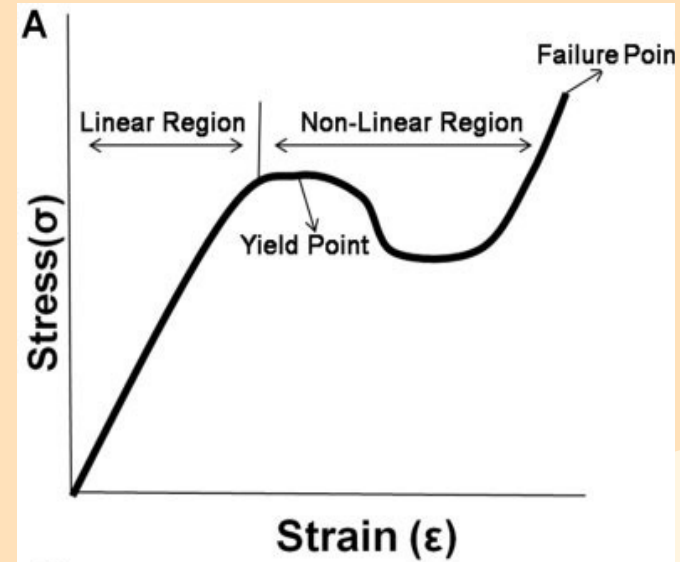

Figure 2 A typical stress–strain curve of a polymer obtained via controlled force mode
- Hooke's law states that strain in a material is proportional to the applied stress within the elastic limit of the material. This has been schematized in Figure 2.